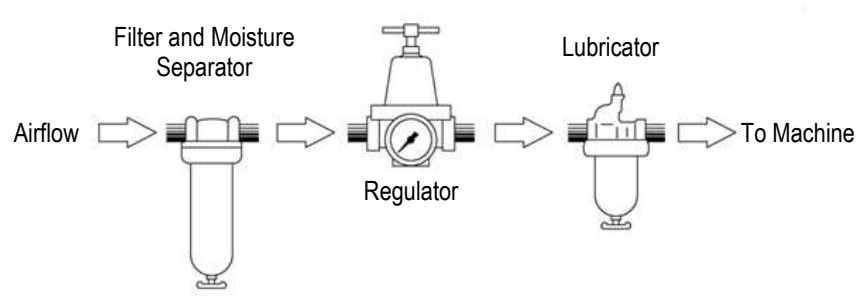

Figure 3
4. Connect the air tube to an approved air source. It is recommended that a filter-regulator-lubricator unit (with the lubricator adjusted to the minimum setting) be used with the power bench assembly (refer to Figure 3).